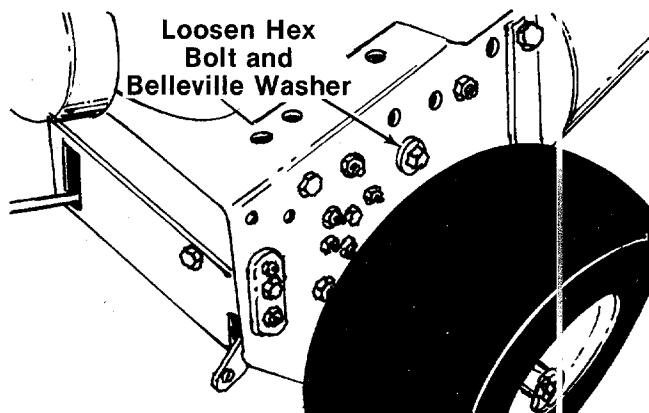

FIGURE 3.
- K (1) Hairpin Cotter
- L (1) Compression Spring
- M (1) Elastic Lock Nut 3/8-24 Thread
- N (2) Ignition Keys
- O (2) Hex Bolts 5/16-18 x 1 3/4" Long*
- P (2) Hex Lock Nuts 5/16-18 Thread*
- Q (1) Shift Lever
3. To assemble the handle, loosen one self-tapping screw and belleville washer on each side of the unit. See figure 3. A 9/16" wrench or adjustable wrench is required.